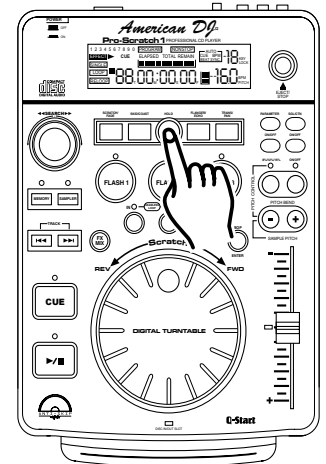

Figure 43
**HOLD BUTTON:** Use the **HOLD BUTTON (2)** to lock your customized parameters. If the hold button is not activated any changes to your parameters will be momentary. To activate the hold function press the **HOLD BUTTON (2)** as in figure 43. When the hold function becomes activated, the hold button will light up blue.
**SCRATCH/FADE EFFECT:** The Scratch effect simulates real time turntable scratching. The fade effect fade the volume in and out. Pressing **SCRATCH/FADE BUTTON (4)** once will activate the scratch effect (figure 43). When the Scratch Effect is activated the **SCRATCH/FADE BUTTON (4)** will glow. To activate the Fade Effect, be sure the scratch effect is off and press and hold the **SCRATCH/FADE BUTTON (4)** until it begins to flash. A flashing button will represent the Fade Effect is active. The fade effect will fade the music out and bring back in. The fade time can be adjusted in the parameters setting from 0010 to 9990. 9990 will give you the longest fade out time. The fade value ranges from 10ms to ten seconds.